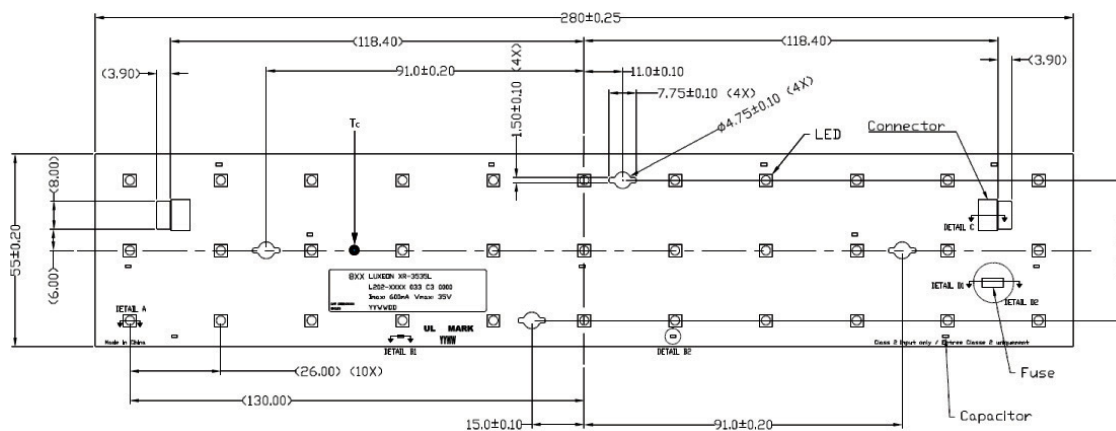

Figure 4: Mechanical dimensions for L202 – xxxx033C30000, outline, screw hole and LED pitch.
Notes for Figures 4, 5 and 6:
- Notes for Figures 4, 5 and 6.